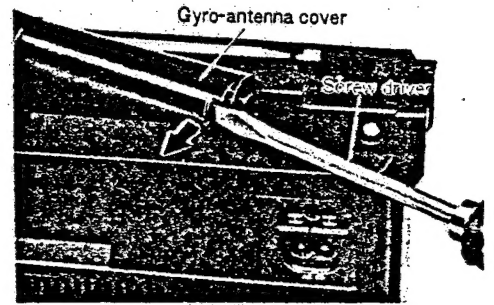

Fig. 9
1. Remove gyro-antenna cover in the direction of arrow, as shown in fig. 9.